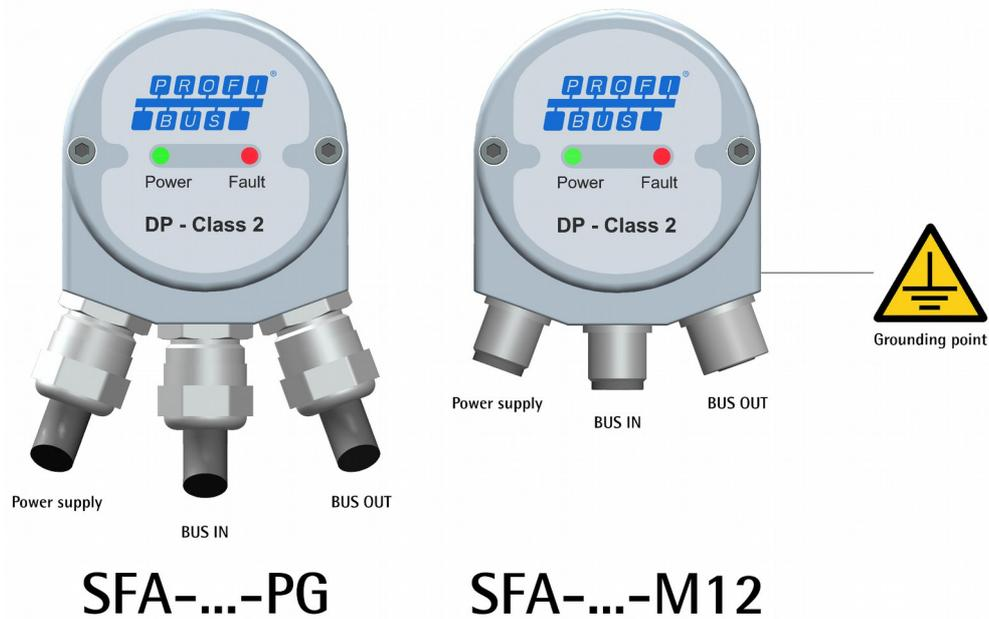
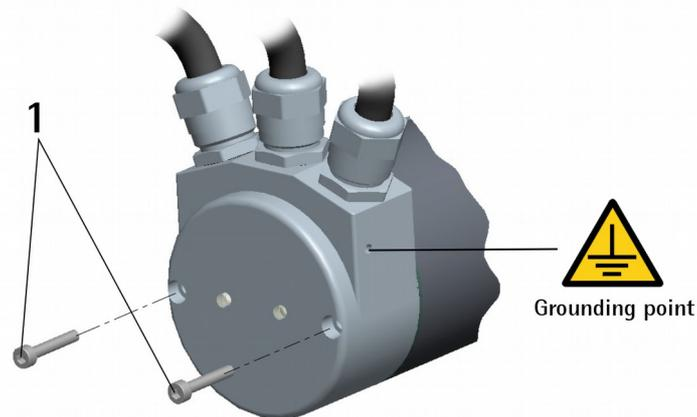
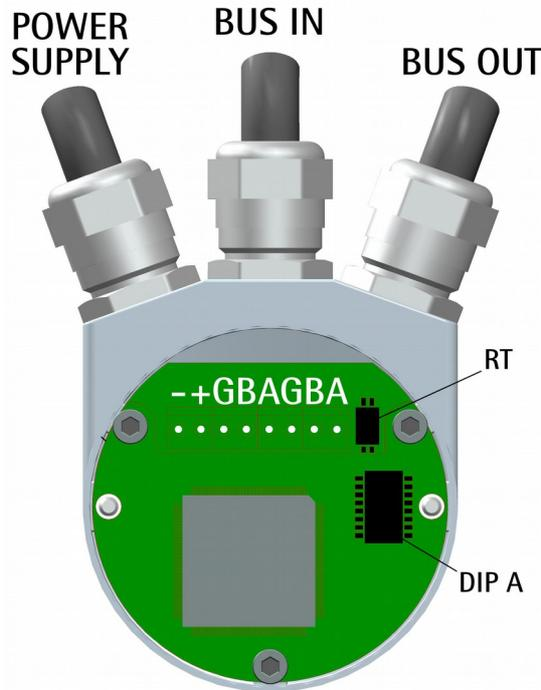

Figure 1
Figure 2
Figure 3
4.1 Encoder connection cap (Figure 1 and Figure 2)
To remove the connection cap loosen the two screws **1** (Figure 2). Please be careful with the internal connector.
4.2 Profibus encoder with PGs: PG version (Figure 2 and Figure 3)
4.3 Profibus encoder with M12 connectors: M12 version (Figure 2 and Figure 4)
4.4 Ground connection (Figure 2)
Minimize noise by connecting the shield and/or the connector housing and/or the enclosure to ground. Make sure that ground is not affected by noise. The connection point to ground can be situated both on the device side and on user's side. The best solution to minimize the interference must be carried out by the user. You are advised to provide the ground connection as close as possible to the unit. We suggest using the ground point provided in the connection cap (see Figure 2, use one TCEI M3 x 6 cylindrical head screw with two tooth lock washers).
4.6 Diagnostic LEDs (Figure 1)
4.7 Node Address: DIP A (Figure 3 and Figure 4)
After having set the device address, please check the bus termination switch position (see the "4.9 RT Bus termination (Figure 3 and Figure 4)" section on page 32).
4.9 RT Bus termination (Figure 3 and Figure 4)